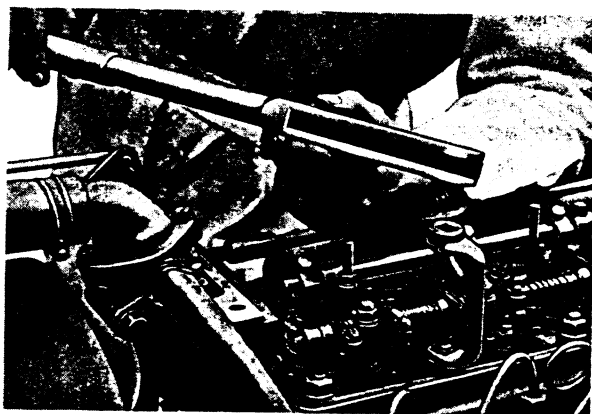

FIG. 114.
N.B. It is essential for **all** cylinder head nuts to be retightened in the correct sequence to the recommended torque. This is facilitated by the use of Service Tool FTB.30, which enables the otherwise inaccessible cylinder head nuts under the rocker and decompression shafts to be tightened with both shafts in position. See Fig. 114.